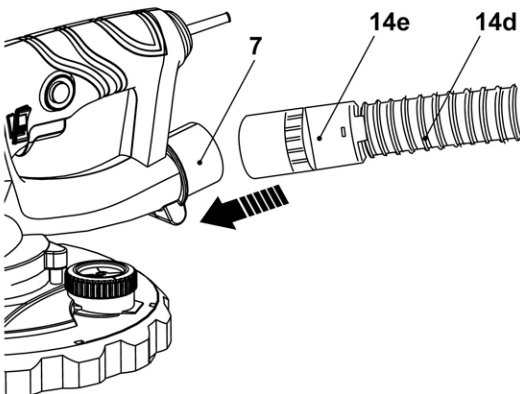

Fig. 4
- > Align and attach the vacuum hose connector (14e) onto the dust extraction outlet (7) until the stop (Fig. 4).
- > After operation, hold and pull the vacuum hose connector (14e) off the dust extraction outlet (7) to remove the vacuum hose (14d) / dust bag (14) from the product.